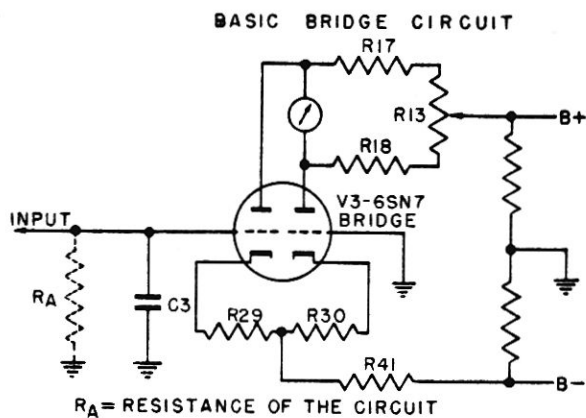

FIGURE 2
3.3 ELECTRONIC BRIDGE CIRCUIT—Fig. 2
The basic bridge circuit, common to all measurement circuits except D.C. Mills is illustrated in Figure 2. The basic Wheatstone bridge principle is employed, utilizing a 6SN7 double triode as the balance tube. The "B" supply potential is applied at R.13 and feeds through R.41 which is connected between the bridge elements R.29 and R.30. Zero voltage adjustment is provided by means of the adjustable potentiometer